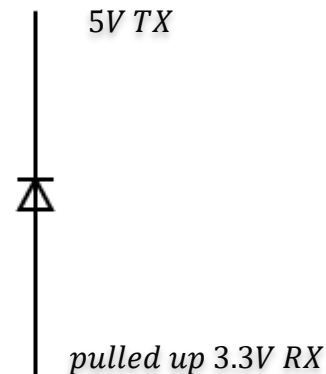

Figure 2.0
**Scenario:** Imagine we want to send data from the 5V driven TX pin of a controller to the 3.3V capable RX pin of another controller. What we can do is to put a reverse biased diode in series from one transmission point to the other like in the Figure 2.0.